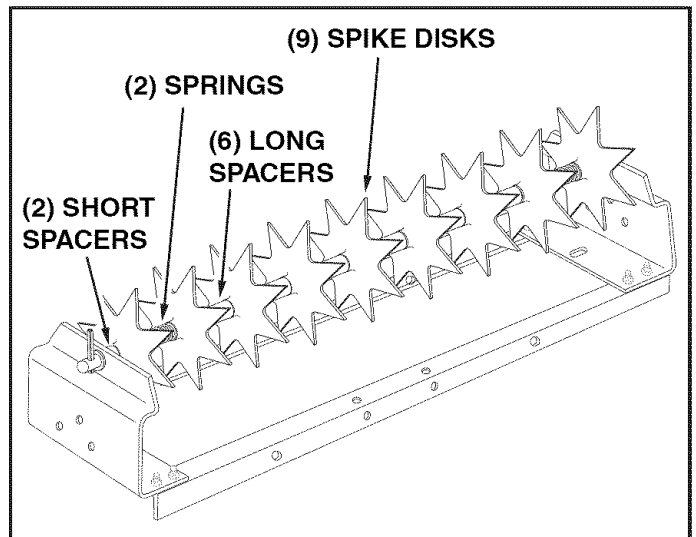

FIGURE 4
- Insert the end of the axle through one of the end plates. See figure 4.
- Assemble onto the axle, in order, a short spacer, a spike disk and a spring. See figure 4.
- Next, starting with a spike disk, assemble seven spike disks and six long spacers onto the axle. See figure 4.
- Finally, assemble a spring, a spike disk and a short spacer onto the axle. Push the end of the axle through the second end plate. See figure 4.